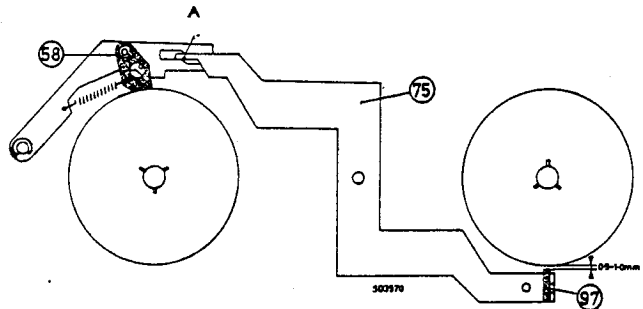

Fig. 1
2. **Improved brake construction** (See Figs. 1 and 2)
Ensure that recorder is in STOP position. Press brake shoe 58, Figs. 1 and 2, to the left. Bend lug A so that in this position of brake shoe 58, the distance between the right-hand turntable and right-hand brake shoe 97, is 0.5 to 1.0 mm.